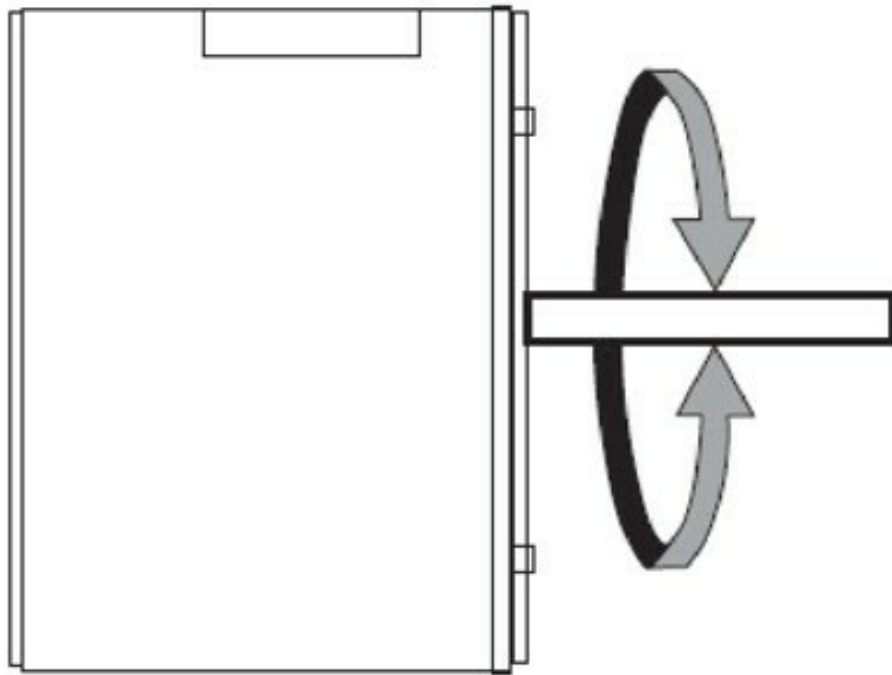

Figure 16
2. Make sure the motor shaft spins freely without effort manually in both directions [Figure 16].